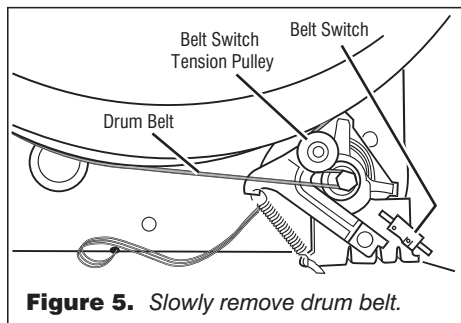

Figure 5. Slowly remove drum belt.
5. Check the belt switch and drive motor. Access the belt switch and drive motor by removing the front panel/drum assembly. See Removing the Front Panel/Drum Assembly, page 9. Slowly remove the drum belt from the spring-loaded belt switch tension pulley, gently letting the pulley down. See figure 5.